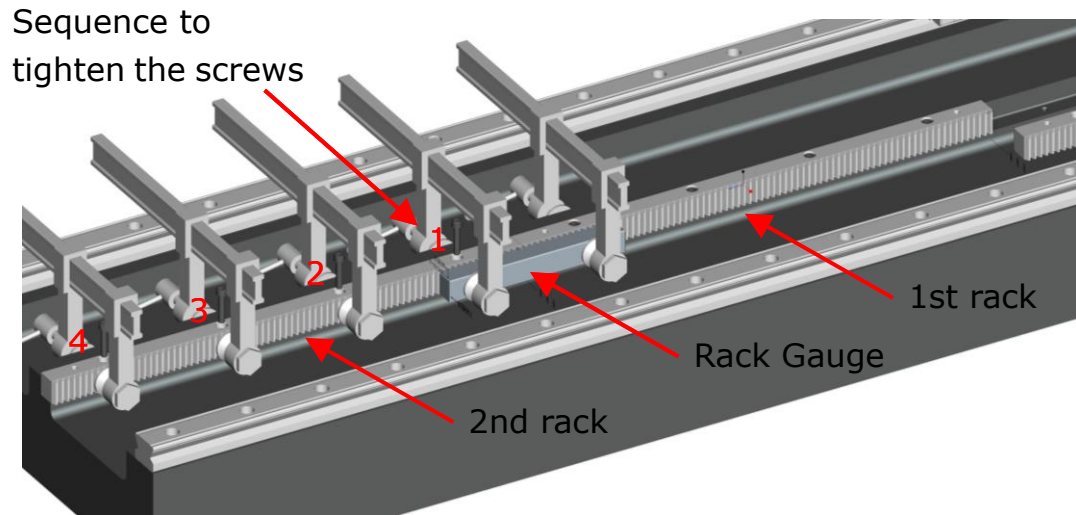

Fig. 9
5.3.5 According to the sequence shown in Fig. 9 starting from the 1st screw next to the junction position, tighten the screws with the 50% rated torque. To tighten all screws with the rated torque when the adjustment of rack gap has been done, s. Step 5.